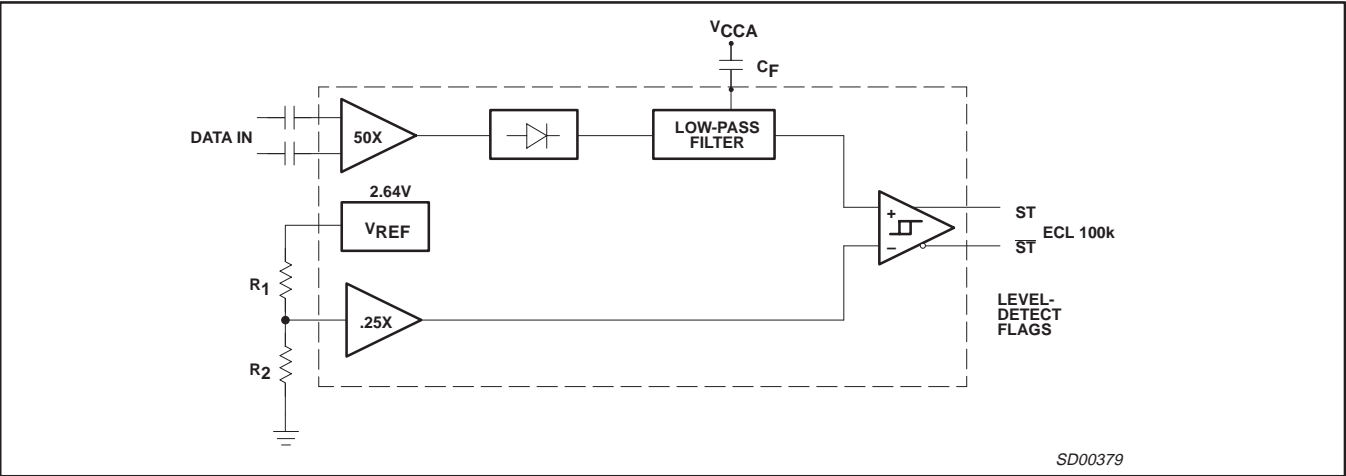

Figure 6. SA5224 Input Signal Level-Detect System
Figure 6 shows a simplified block diagram of the SA5224 level-detect system. The input signal is amplified and rectified before being compared to a programmable reference. A filter is included to prevent noise spikes from triggering the level-detector. This filter has a nominal 1 μs time constant, and additional filtering can be achieved by using an external capacitor (CF) from Pin 7 to V_{CCA} (the internal driving impedance is nominally 24k). The resultant signal is then compared to a programmable level, V_{SET} , which is set by an internal voltage reference (2.64V) and an external resistor divider (R1 and R2). The value of R1 + R2 should be maintained at approximately 5k.